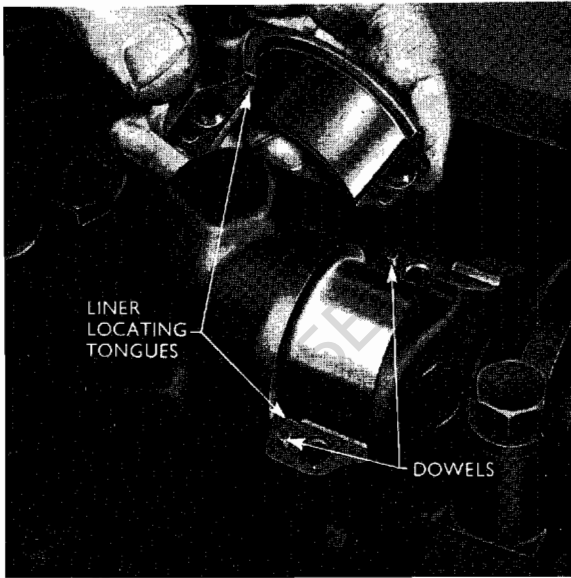

Fig. 14
12. (a) Withdraw the piston and connecting rod assemblies. Release the locking tabs on the big end bolts, unscrew the bolts two to three threads and tap them to release each connecting rod from its cap. Each cap is located on its rod by dowels (see Fig. 14). Finally, completely remove the bolts and detach the big end caps. Push the pistons along the cylinder bores and withdraw the assemblies.